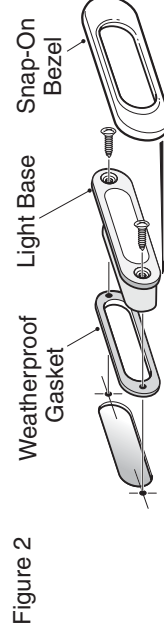

Figure 2
2. Fit light base into mounting hole and use as template to mark fastener locations (Figure 2).